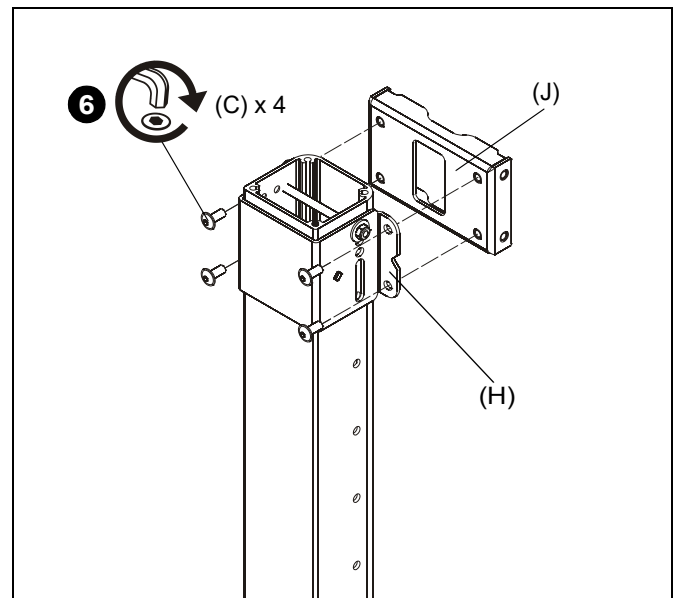

Figure 4
6. Use four 5/16-18 x 3/4" button head flange screws (C) to secure each attached clamp bracket (H) to each quick connect base (J). (See Figure 4)